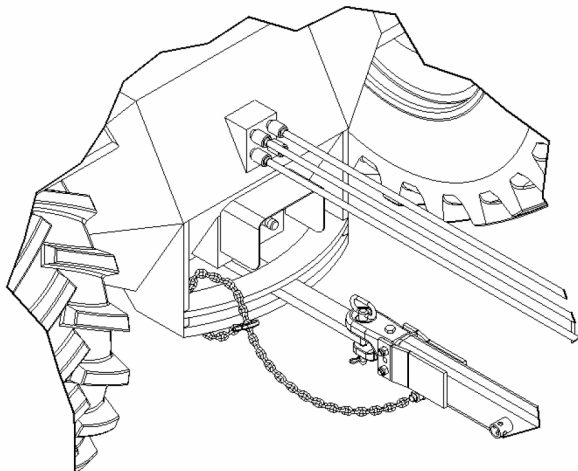

Fig 1: Connecting to Tractor
6. Install a draw bar pin with provisions for a mechanical retainer (Figure 1). Install the retainer.